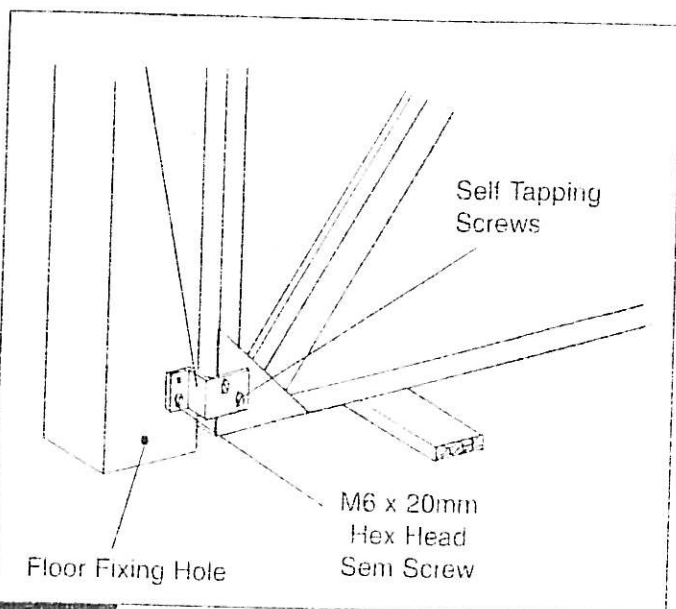

FIG 2
- 4** Remove transit brackets from assembly. Retain M6 × 20mm hex head sem screws and discard No. 10 × 3/4" self tapping screws (Figure 2) and brackets.
5. Remove 4 screws securing the two spring mounting brackets. (See Fig. 2)